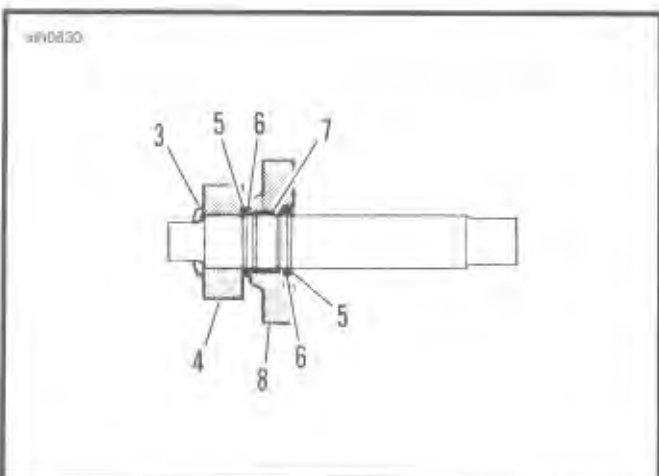
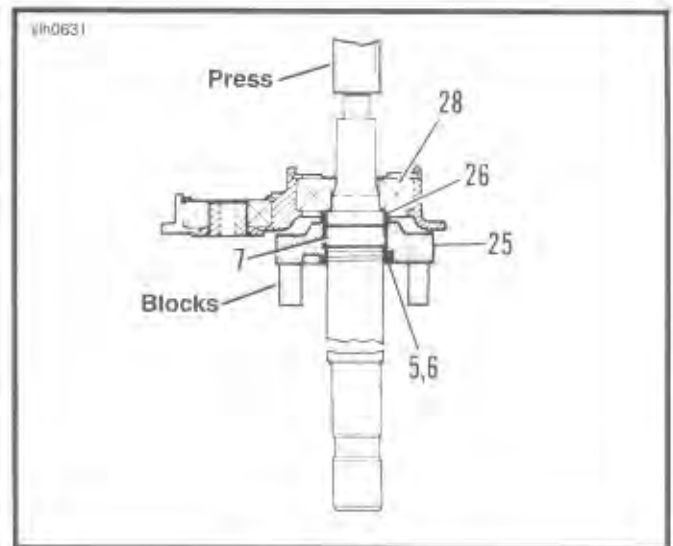

Figure 6-34.
Figure 6-35.
9. See Figure 6-34. Remove beveled spacer (3) and countershaft 4th gear (4).
10. Expand retaining ring (5) located next to countershaft 1st gear (8). Remove retaining ring (5) and thrust washer (6). Slide countershaft 1st gear off end of shaft. Remove split bearing (7).
11. Remove thrust washer (6). Expand remaining retaining ring (5) and slide off shaft. This completes disassembly of countershaft.
12. See Figure 6-35. Place mainshaft and access door assembly on arbor press with support under mainshaft 4th gear (25). Press on end of shaft until mainshaft is free of access door bearing. Remove spacer (26), mainshaft 4th gear (25) and split bearing (7).
13. Remove thrust washer (6). Expand and remove remaining retaining ring (5).